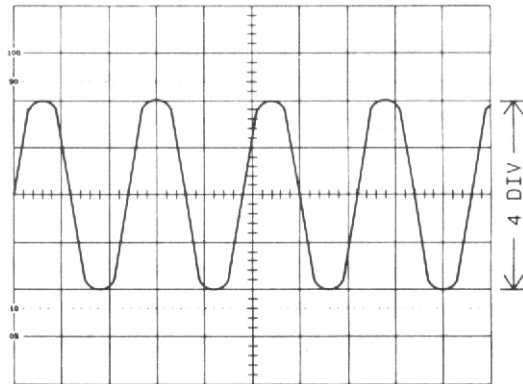

Fig. 2-6. PEAK-TO-PEAK VOLTAGE MEASUREMENT
2. Adjust the TIME/DIV switch (22) in such a manner as to form a waveform of as many as two or three cycles and the VOLTS/DIV switch shall be so adjusted as to make the waveform be on the CRT screen display.
3. Adjust the Vertical POSITION controls (17) and (18) properly and make the end of the waveform align with the horizontal graticule line of the CRT screen display. (See Figure 2-6).
4. Adjust the Horizontal POSITION control (26) and make the end of the waveform be on the central vertical line of the CRT screen display.
For example, if the value of the VOLTS/DIV switch was set to 2V when the waveform same as that shown in Figure 2-6 had been measured, it would in fact be 8.0 Vp-p.